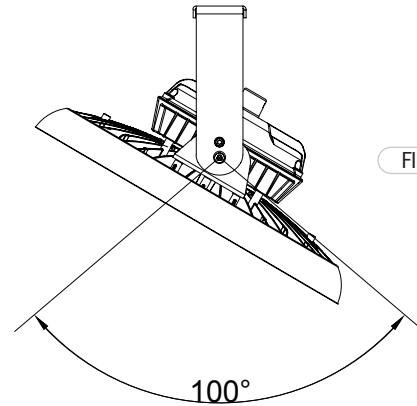

FIG.7
- 4 Once the fixture is mounted, connect its wire to the main power, following local wiring guidelines. Ensure a firm connection and properly safeguard the connection point. By adjusting the bracket screws, users can swivel the fixture up to 50° either to the left or right vertically, as demonstrated in (Figure 7).